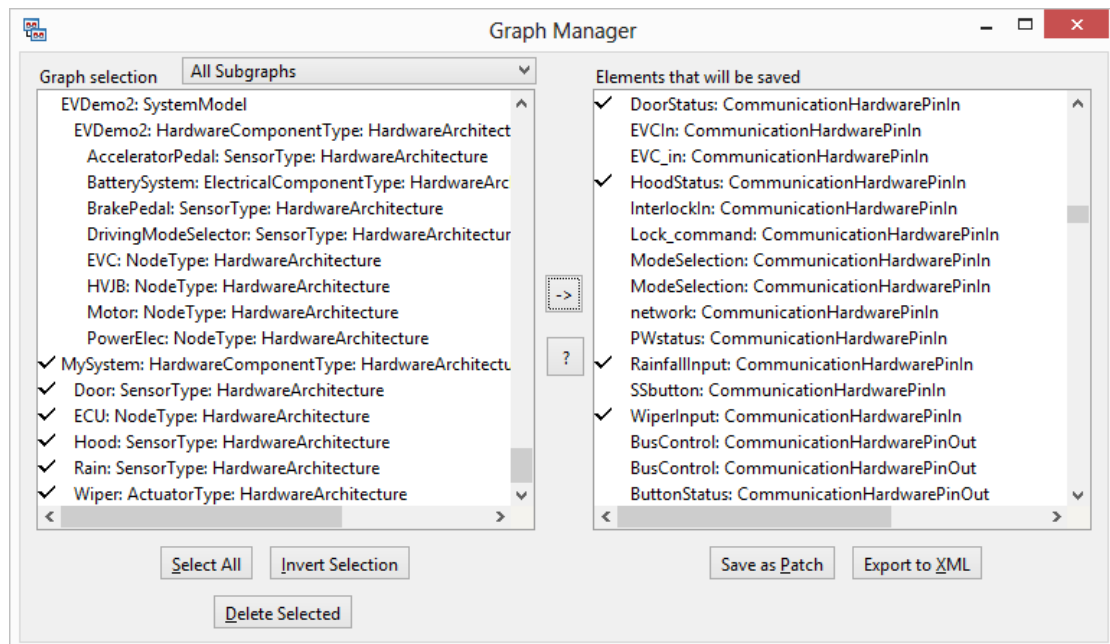

Figure 7-1. The Graph Manager
- 1) Figure 7-1 below illustrates the Graph manager.